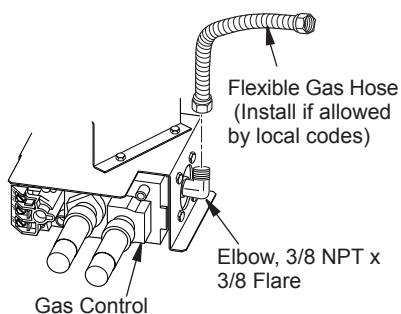

Figure 10 - Attaching Flexible Gas Hose to Heater Gas Regulator
1. Apply pipe joint sealant lightly to male threads of the 1/2 NPT side of gas fitting elbow (provided) and connect to inlet side of gas control. Remove gas fitting from flexible gas hose (provided) before connecting to elbow (see Figure 10).